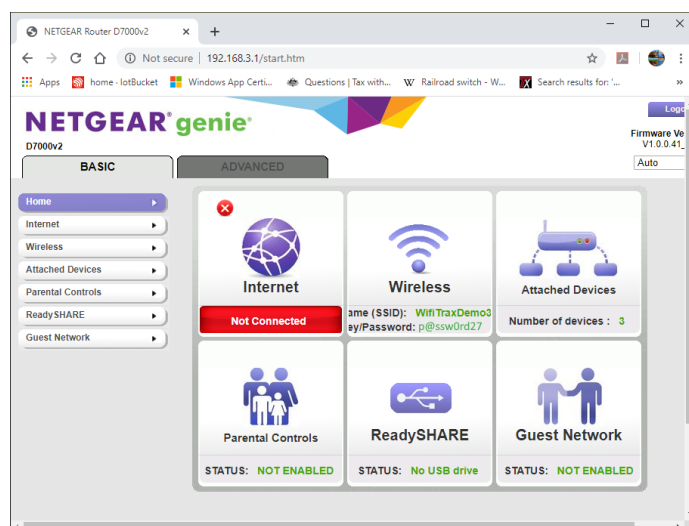

Figure 56 A typical router admin page
- (6) Once you have given the credentials, you will see the admin page. A typical one is shown in Figure 56. Find the "Attached Devices" option and click on it.